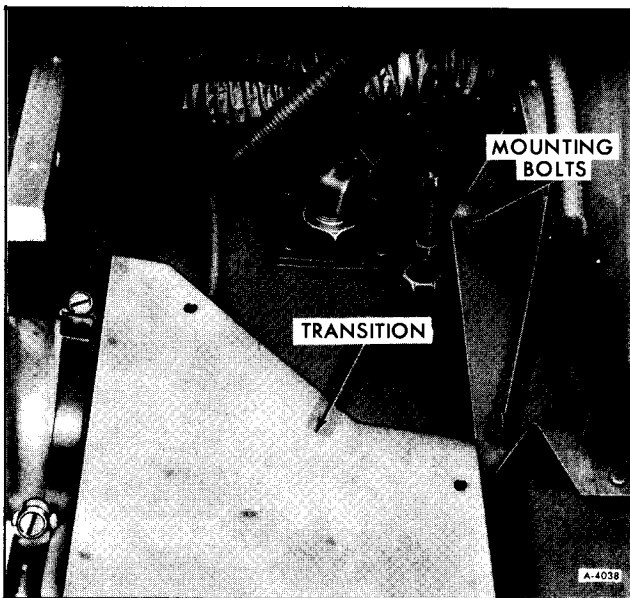

Figure 9—Location Furnace Mounting Bolts (Left-Side)
7. Remove two mounting bolts from left-side of furnace (figure 9).
NOTE: Figure 9 shows transition removed from plenum to make mounting bolts visible.
3. Install two mounting bolts at left-side of furnace (See figure 9). Connect ducts at left-side of furnace. Install lower shelf in cabinet to left of furnace.